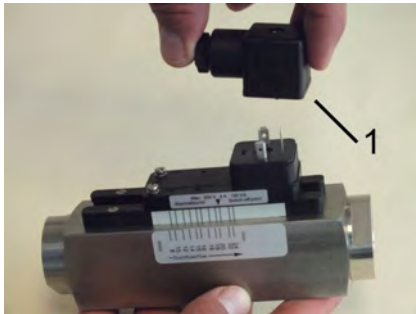

Fig. 24: Remove socket
2. ➤ Remove socket (Fig. 24/1)